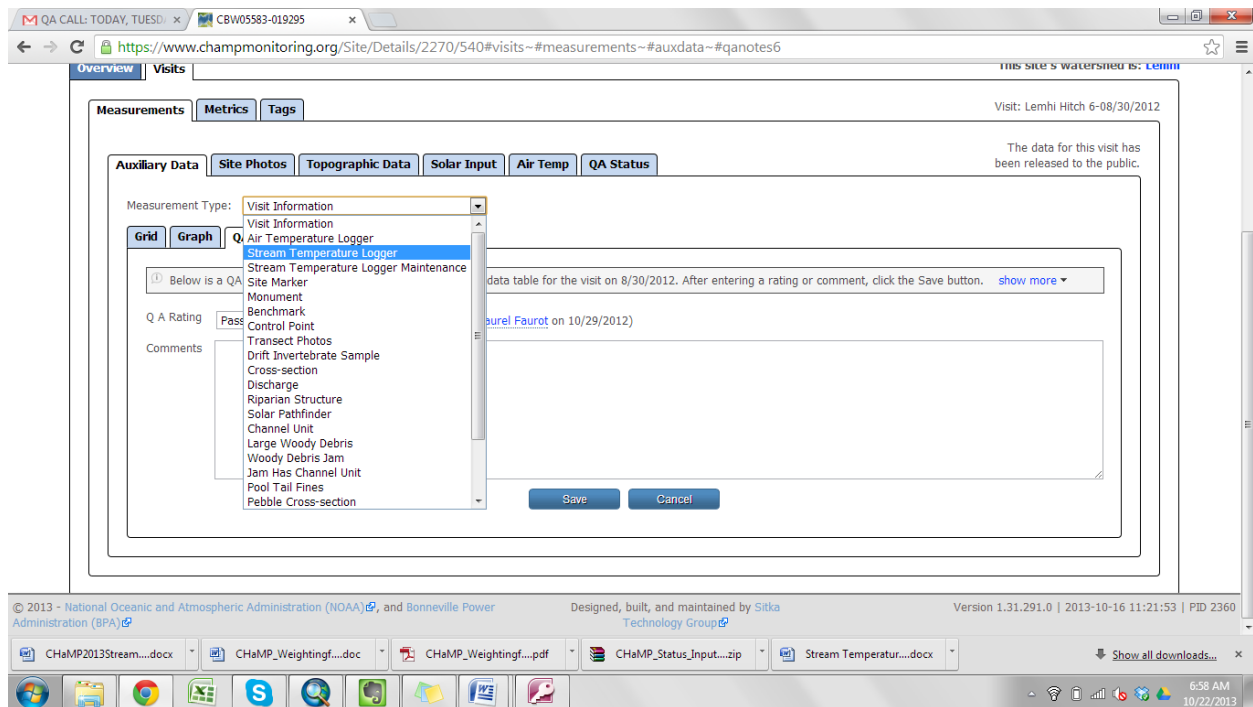

Figure 25. Setting the QA Rating.
5. Select the Measurement Type of Stream Temperature Logger (Figure 25).
4. Scroll right to the “File” column, and select “Stream Temperature Logger” (Figure 25).